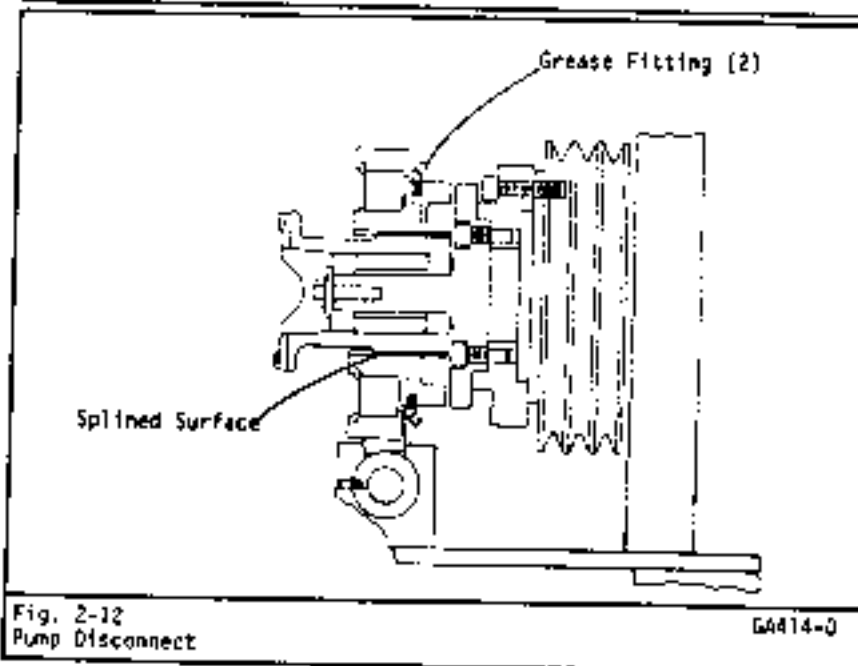

Fig. 2-12
**Recommended Lubrication Procedure:**(Refer to Fig. 2-12.)